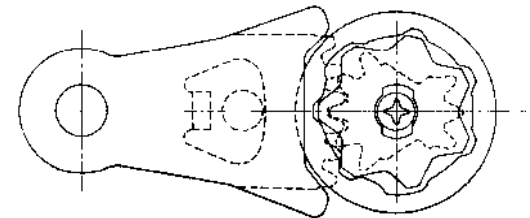

Fig. 65-1 Stopper plate
- C-4. Operation of change arm stopper plate. (Fig. 65-1,2)